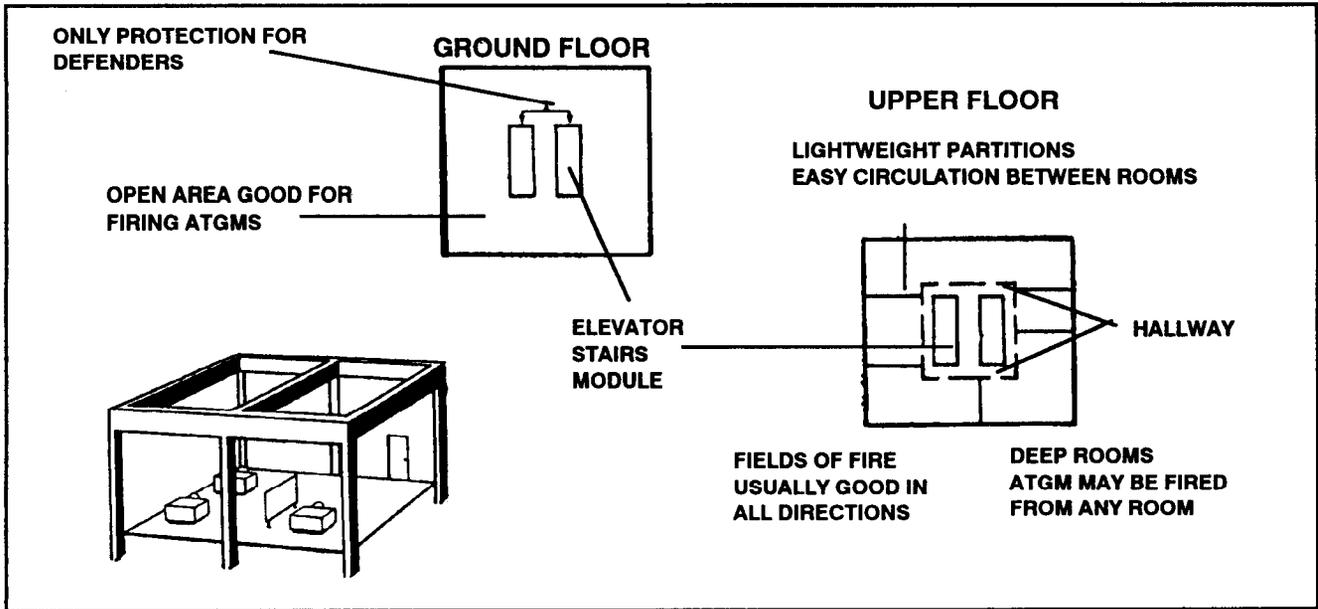

**Figure H-13. High-rise factory.**
(3) Another type of heavy-clad framed building is used as a high-rise factory (Figure H-13, page H-8). Such buildings are normally easily recognized because the concrete beams and columns are visible from the outside. They are usually located in older industrial areas. The large windows and open interior favor the use of ATGMs. Because the floors are often made to support heavy machinery, this building provides good overhead cover.